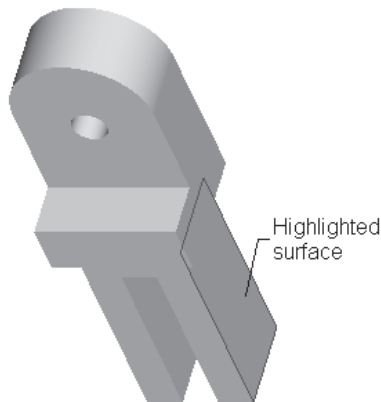

Figure 4-57 Sketching plane for hole feature
A through cut will be created on the outer right surface of the third feature. The circular section for the cut will be sketched and using the **Cut** option from the **SOLID** menu, the circular cut will be created. The sketching plane will be the surface of the third feature that is shown in Figure 4-57.
3. Select the planar surface shown in Figure 4-57 and specify the direction of feature creation.